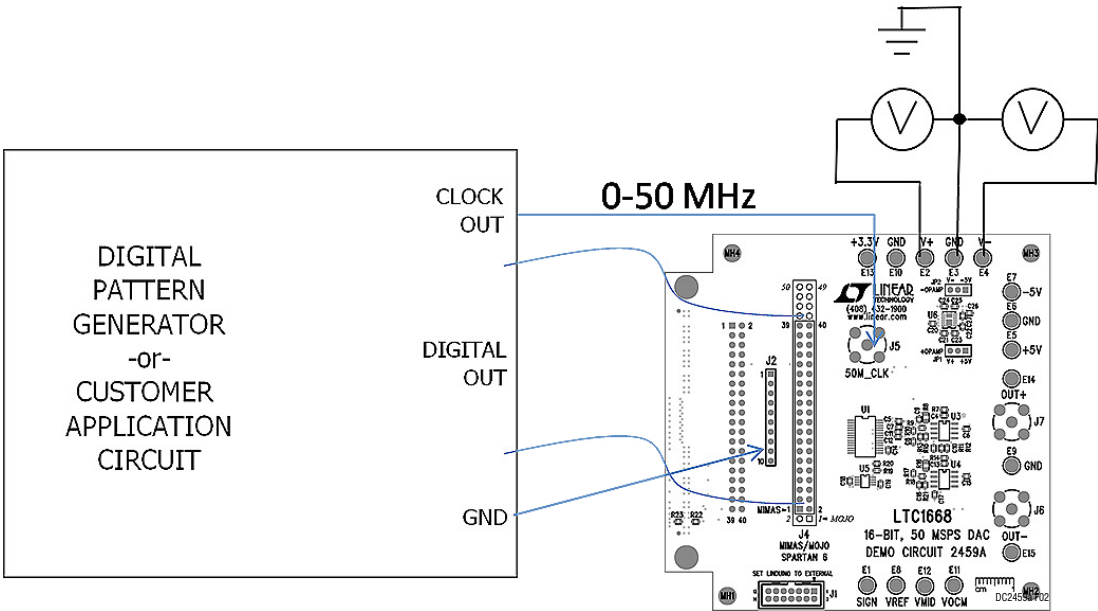

Figure 2. Basic Connection to Digital Pattern Generator
1. There are several options for providing digital data to the DC2459A, shown in Figures 2 to 6. Connect the DC2459A to a digital pattern generator (which can be the customer application circuit) or supported low cost FPGA board. Do not enable the data source until power is applied to the DC2459A.